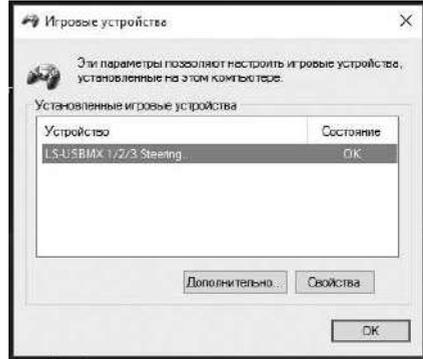

Fig. 5
- In «control panel» menu, then click on «devices and printers», icon, in the window that opens, select «LS-USBMX 1/2/3 Steering Wheel W/Vibration», shortcut, right-click on «Game controllers settings» (Fig. 5).